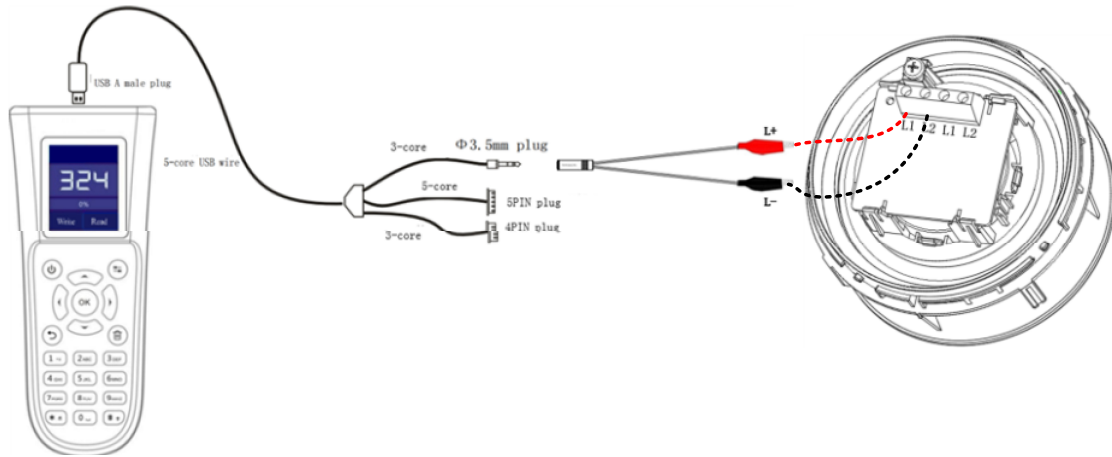
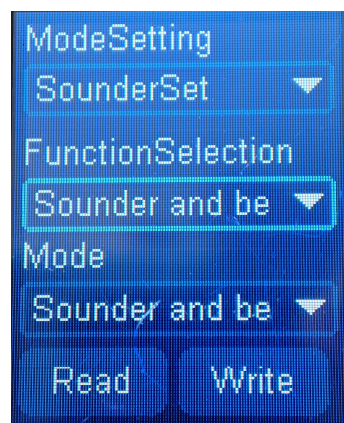

Fig.4
Fig.5
(4) Mode code: The modes of the Sounder Beacon are all set by the coder, and there are four different modes in total, which are divided into Sounder Beacon/Sounder/Beacon mode, Intelligent/Conventional mode, Tone mode, and mute non-stop beacon mode. The wiring method is shown in Fig. 4, the interface is shown in Fig. 5.